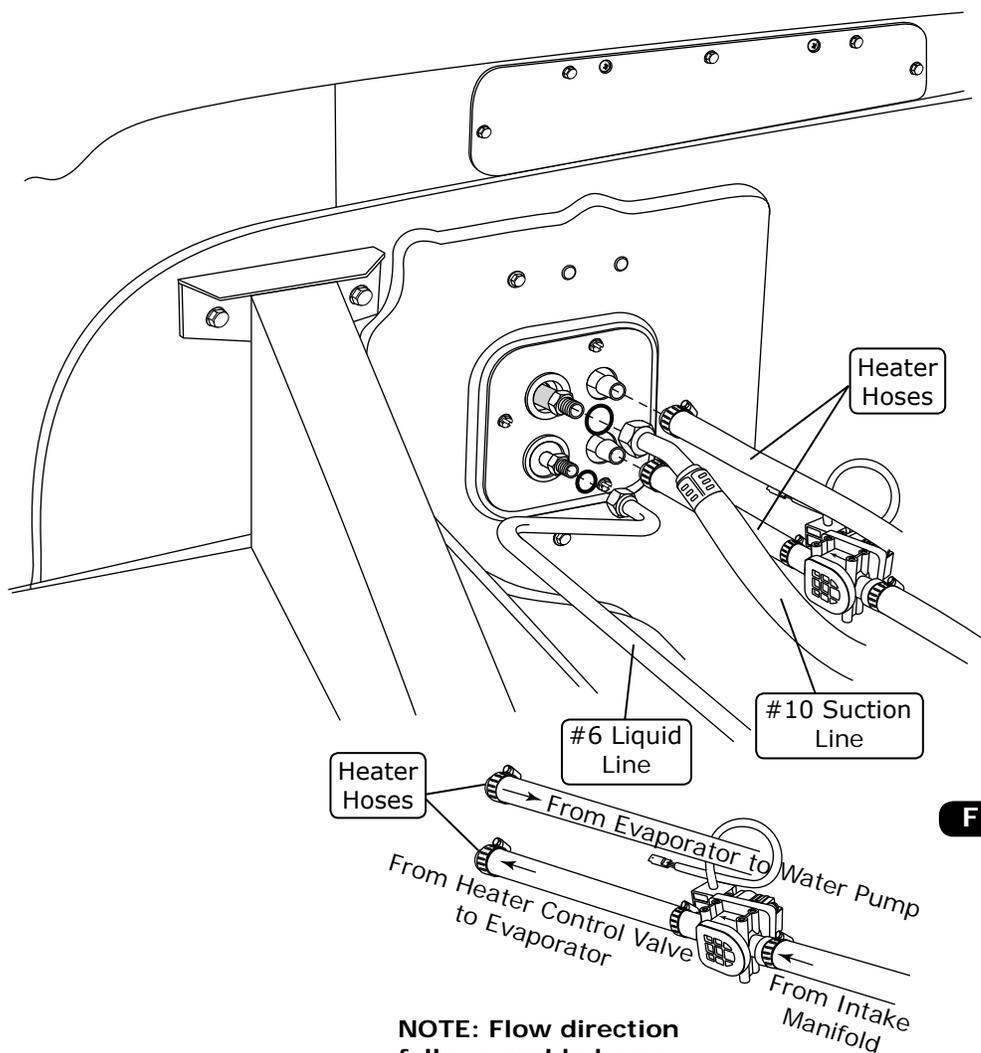

Figure 1
2. Route the heater hose from the intake to the heater line coming through the firewall as shown in Figure 1, below. **NOTE: Install the heater control valve in line with the intake manifold (pressure side) heater hose. Secure using hose clamps as shown in Figure 1, below. Note proper flow direction.**